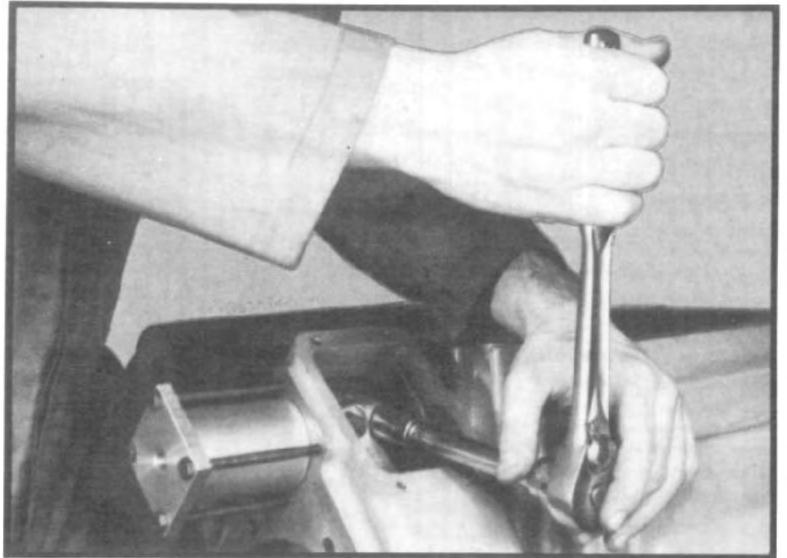

Fig. 11
8. Cut the lockwires and remove the shift fork clamping screws. (See fig. 11.)